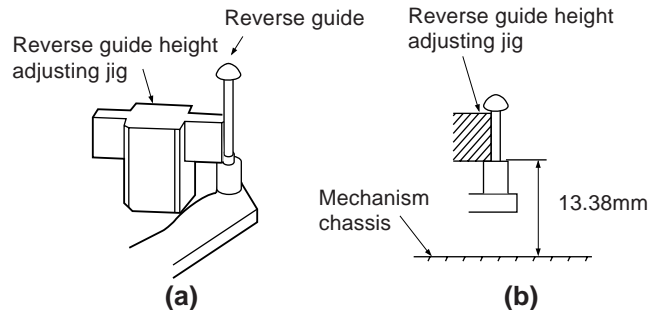

Figure 4-28.
1. Adjust the height from the mechanism chassis to the reverse guide lower flange to 13.38 mm, using the reverse guide height adjustment jig, in tape loading state. (Refer to Figure 4-28 (a) (b).)